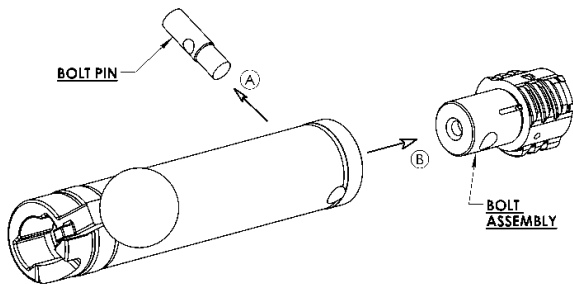

Figure 25.
6. Using a punch or other pointed object, push the bolt pin (Figure 25, Step A.) out of the bolt tube. Note that the bolt pin can only be disassembled or assembled from one direction.
7. Remove the bolt assembly (Figure 25, Step B.) from the bolt carrier.